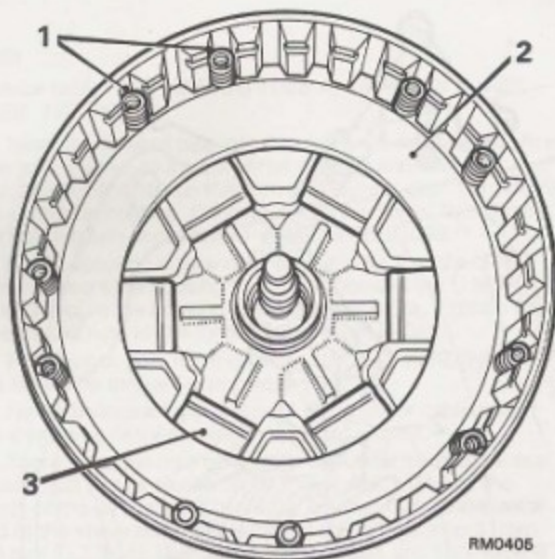

Fig 7
9. Fit the toggles, pressure plate and piston return springs, positioning the springs as shown in Fig. 7.